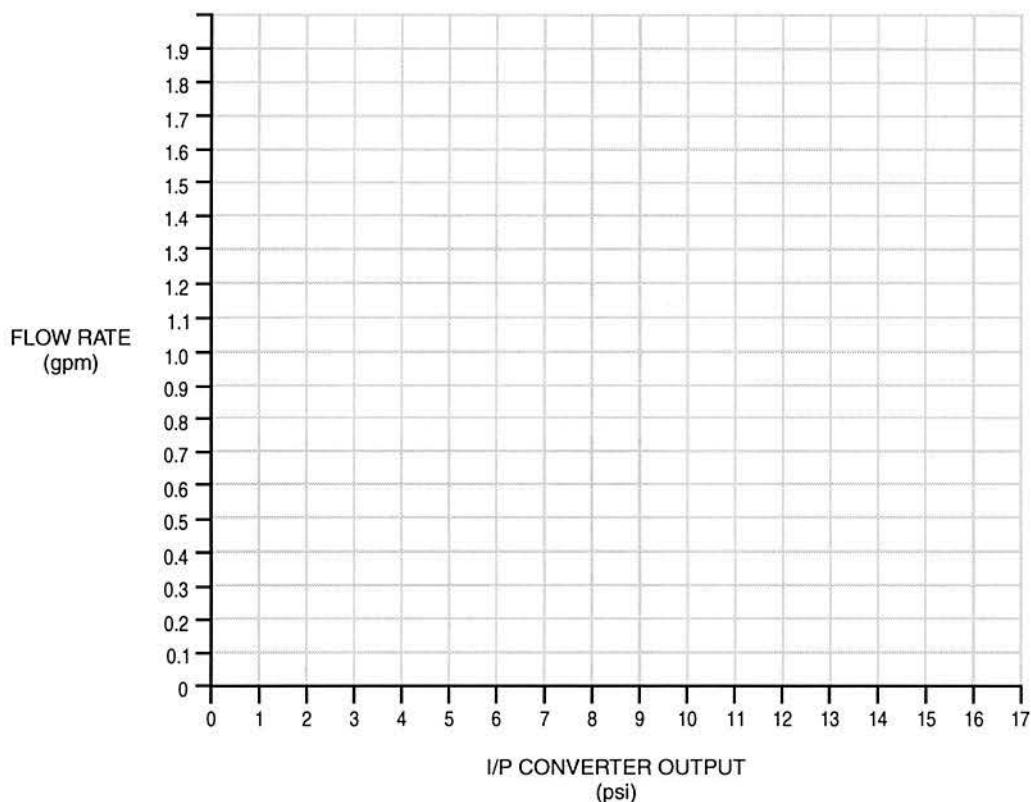

Figure 41. Graph of I/P Converter Pressure Output vs. Flow Rate
- C. Use the values you recorded in the table in figure 41 to plot the I/P converter output pressure versus the flow rate on the graph sheet in figure 41. The pressure output in psi is scaled along the horizontal axis and the flow rate in gpm is scaled along the vertical axis.